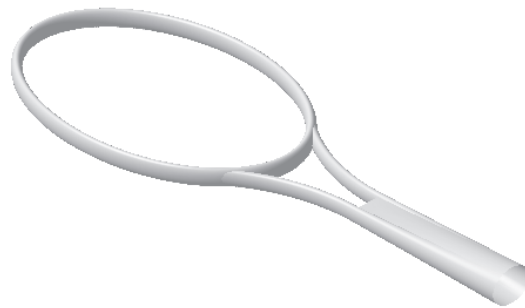

Figure 10-72 The model after creating the multi-sections surface
18. Choose the **OK** button from the **Multi-Sections Surface Definition** dialog box to complete the surface. Figure 10-72 shows the model, after creating the **Multi-sections Surface** and hiding the sketches and the plane.